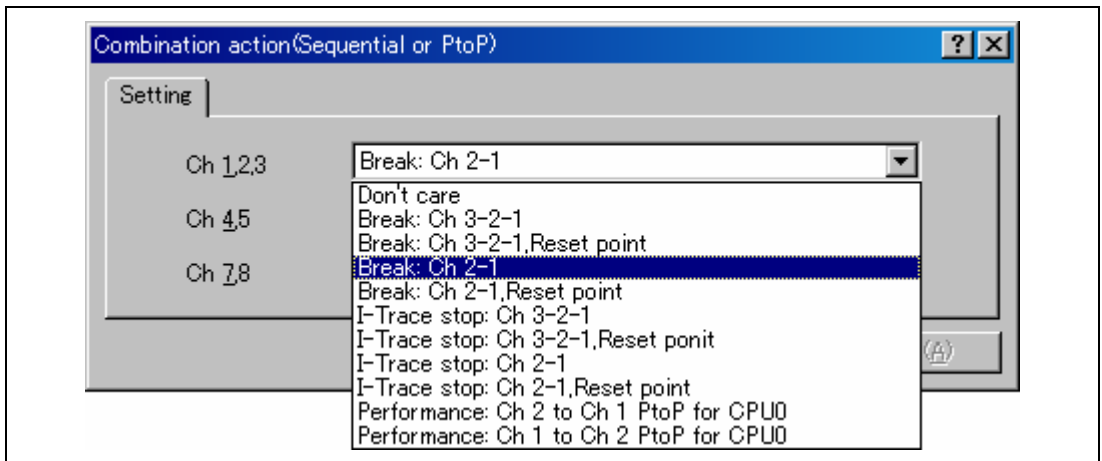

Figure 6.40 [Combination action (Sequential or PtoP)] Dialog Box
- Select [Combination action (Sequential or PtoP)] from the popup menu by clicking the [Event] window with the right-hand mouse button. The [Combination action (Sequential or PtoP)] dialog box will open (figure 6.40).